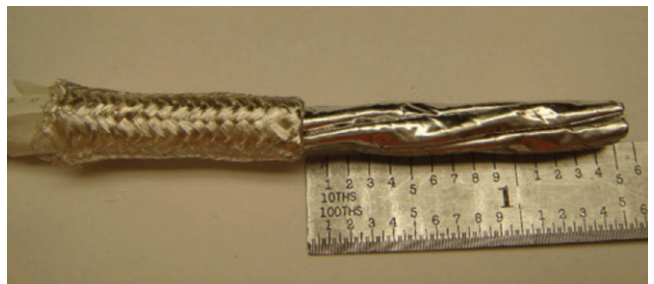

Figure 12: Exposing the foil
5. With your fingers, push the braid back over the cable to expose approximately 1.5 inches of the foil (Figure 12).